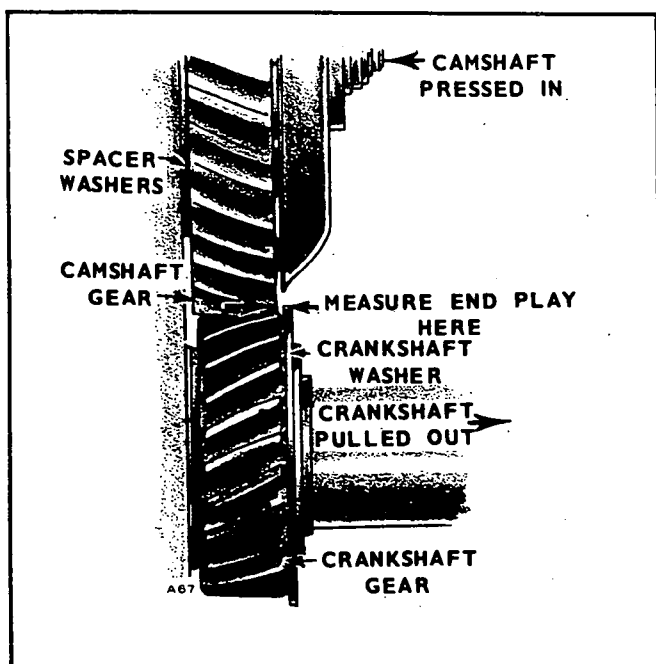

FIGURE 48. CAMSHAFT ENDPLAY
5. Install the camshaft assembly in the engine. Align the timing marks on the camshaft gear and crankshaft gear. See Figures 48 and 49.